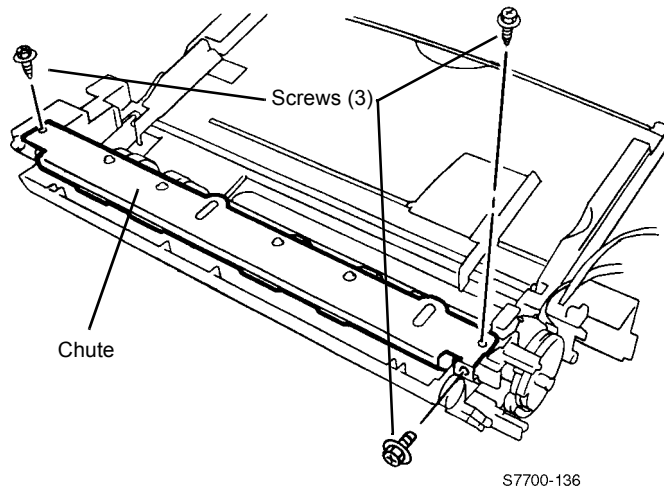

Figure 1 Removing Chute
6. Remove Chute (Figure 1).
- a. Remove Screws (3).